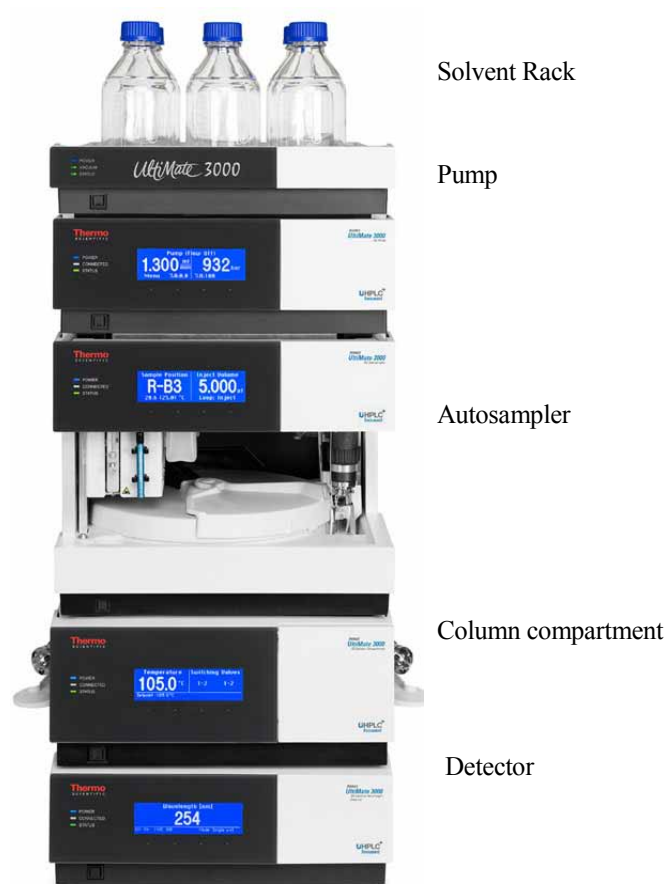
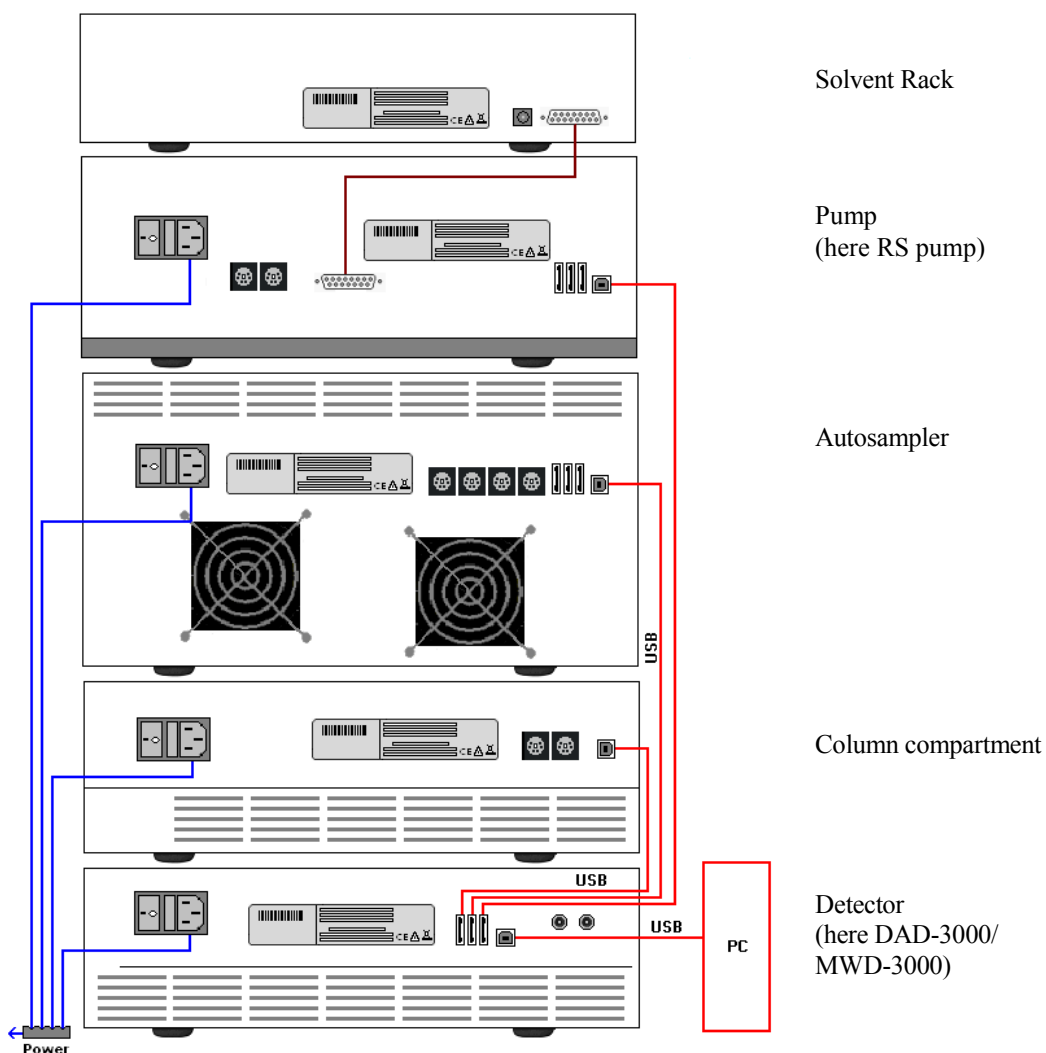

Fig. 4: Module arrangement for an UltiMate 3000 system (example)
Fig. 5: Example for the rear panel connections on an UltiMate 3000 system
If the SRD is part of an UltiMate 3000 system, for example, for analytical HPLC applications, you should stack the individual modules, for example, as shown in Fig. 4 and interconnect them on the rear panel as shown in Fig. 5. The arrangement of the system modules depends on the application.
- Make sure that the tubing connecting the pump to the degasser is as short as possible and locate the solvent reservoirs as close as possible to the pump. To avoid formation of air bubbles in the reservoirs and reformation of air bubbles in the solvent, make sure that the reservoirs are on the same level or higher as the pump. Therefore, stack the rack onto the pump as shown in Fig. 4 (→ page 19).
3. Locate the solvent reservoirs as close as possible to the pump. To avoid formation of air bubbles in the reservoirs and reformation of air bubbles in the solvent, make sure that the reservoirs are on the same level or higher as the pump. Therefore, stack the SRD onto the pump as shown in Fig. 4 (→ page 19). The tubing connecting the pump to the degasser should be as short as possible to avoid reformation of air bubbles in the solvent.